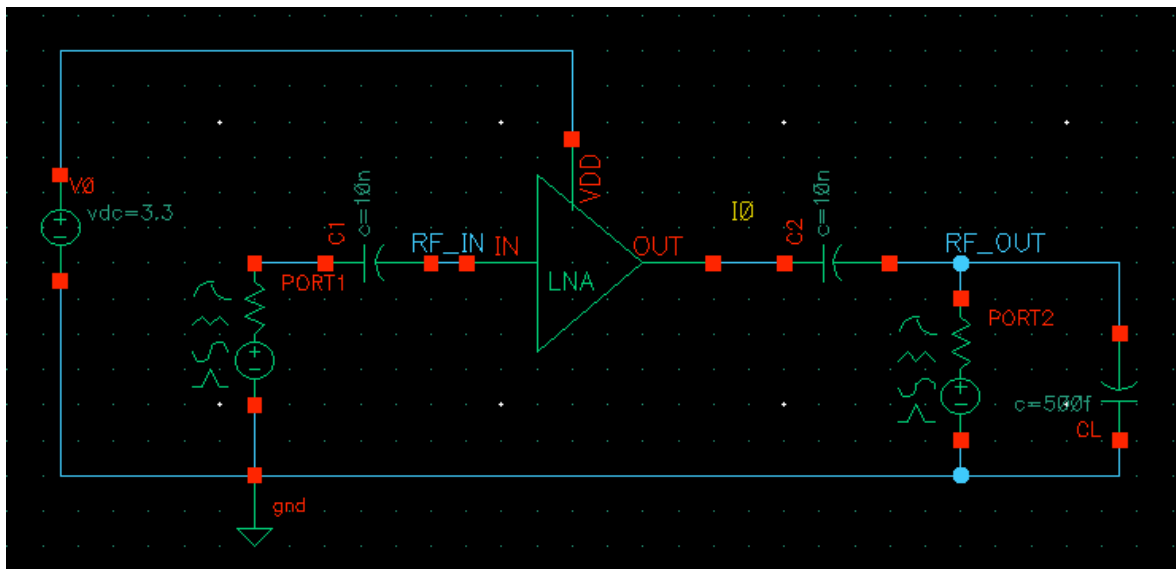

Fig. 2. LNA Test Bench
- Create and draw the Schematics **LNA_testbench** as shown in Fig. 2. The components values are listed below.